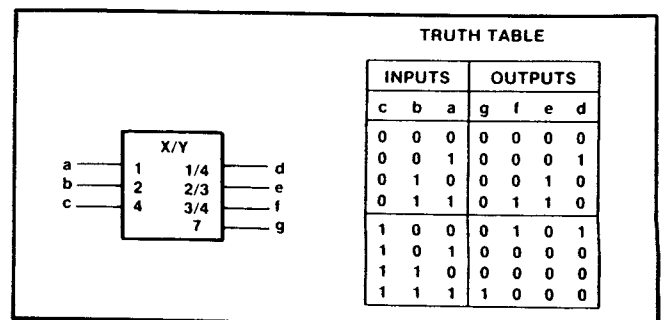

Figure 8-26. An X-Y Code Converter
a. Labeling each output with a list of numbers representing those internal values that lead to the internal 1 state of that output. These numbers shall be separated by solidi (slant:/) as in Figure 8-26. This labeling may also be applied when Y is replaced by a letter denoting a type of dependency (see paragraphs 8-135 and 8-136). If a continuous range of internal values produces the internal 1 state of an output, this can be indicated by two numbers that are inclusively the beginning and the end of the range, with these two numbers separated by three dots, e.g., 4...9 = 4/5/6/7/8/9, or by;